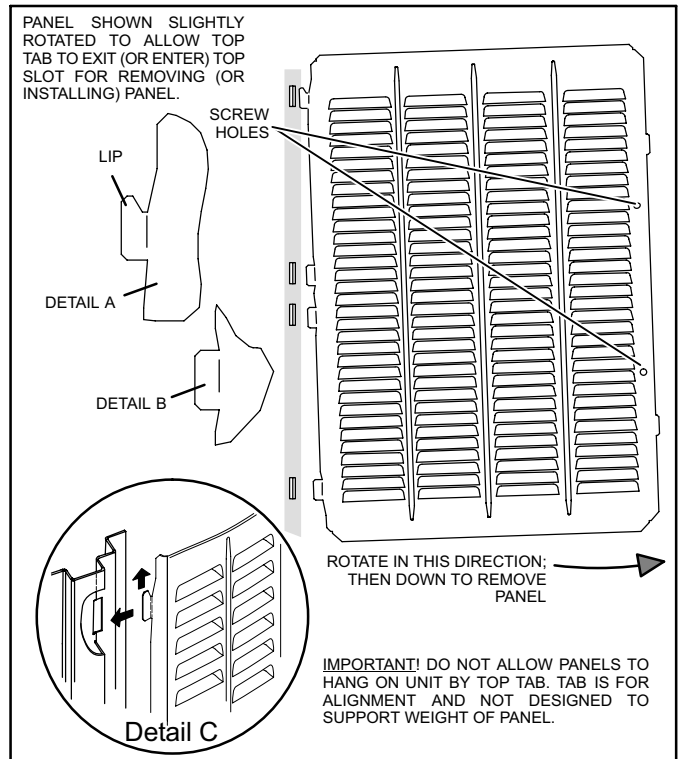

Figure 12. Removing/Installing Louvered Panels (Details A, B and C)
1. Remove two screws, allowing the panel to swing open slightly as illustrated in figure 12.
2. Rotate bottom corner of panel away from hinge corner post until lower three tabs clear the slots as illustrated in figure 12, detail B.
3. Move panel down until lip of upper tab clears the top slot in corner post as illustrated in figure 12, detail A.
2. With a continuous motion slightly rotate and guide the lip of top tab inward as illustrated in figure 12, details A and C; then upward into the top slot of the hinge corner post.